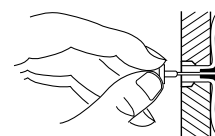

**Figure 8 - Folding Anchor**
2. Fold wall anchor as shown in Figure 8.